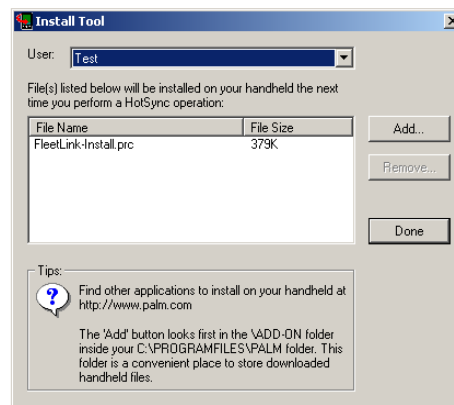

Figure 2: The “Install Tool” Form
2. Install the FleetLINK CD into the PC. Find the file “Fleetlink-Install.prc” in the media provided and launch the application. You’ll now see an Install Tool screen (*Figure 2*) in your windows desktop.